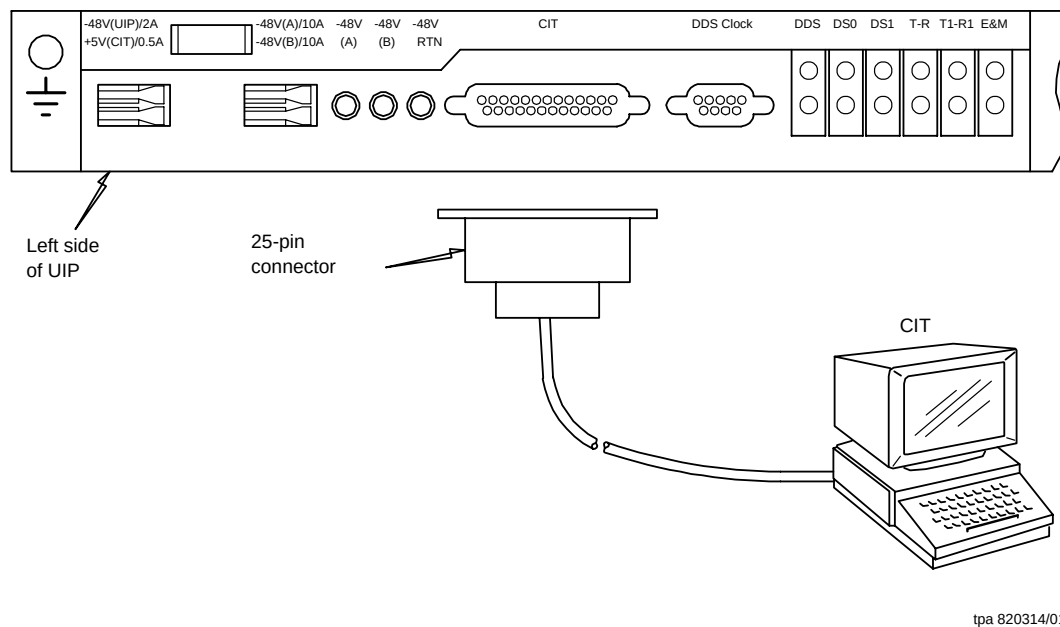

Figure 1 – Typical Craft Interface Terminal (CIT)
8. Connect the PC to the **CIT** port by connecting one end of an RS-232 cable to the **COM1** port of the PC (use a 9-pin to 25-pin converter, if necessary) and the other end of the cable to the UIP **CIT** port (see Figure 1). Press the cover of the UIP to gain access to the CIT port. Turn the PC power switch on.